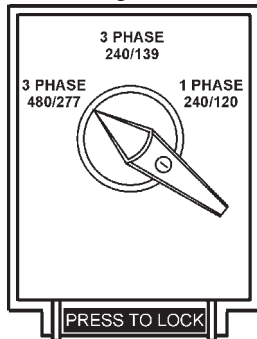

Figure 26. Voltage Selector Switch 480/277V Three-Phase Position
3. Turn the voltage regulator knob (Figure 26) clockwise to increase voltage output, turn counterclockwise to decrease voltage output.
1. Place the voltage selector switch in the 3Ø 480/277 position as shown in Figure 26.